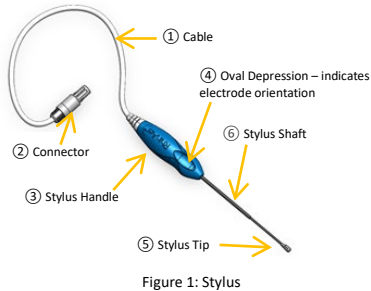
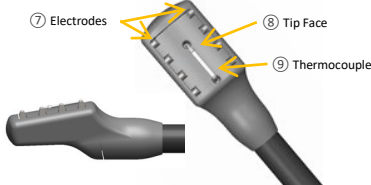

Figure 1: Stylus
Figure 2: Stylus Tip
The RhinAer® Stylus consists of a handle, shaft and treatment tip (see Figure 1). An array of bipolar electrodes is positioned on a non-conductive tip (see Figure 2) which is attached to a handle via a non-conductive shaft. A temperature sensor is located on the tip (see Figure 2) to monitor tissue temperature. The Stylus is attached to a temperature-controlled radiofrequency generator via a flexible cable.
- pressure. The orientation of the electrodes may be verified by the Oval Depression on the Stylus handle. Refer to Figure 1.